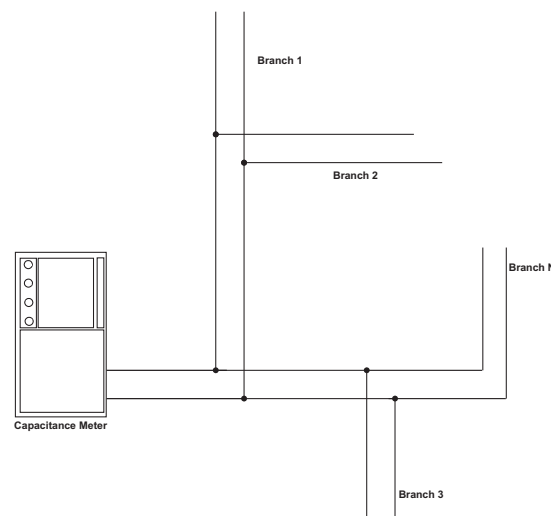

Figure 2-27. Measuring CLASS-B SLC Wiring Capacitance
2. Measure the capacitance from the terminating points at the control unit using a capacitance meter. Refer to Figure 2-27.